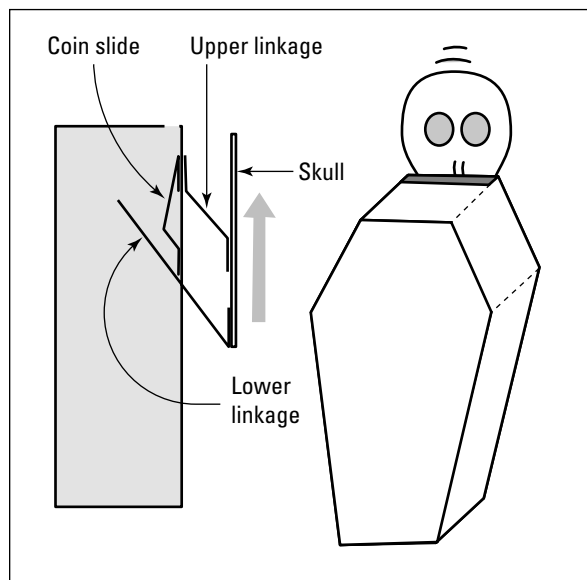

Figure 12-3:
This project uses a four-bar linkage (see the preceding section) to make a skull appear briefly when you put a coin in your Halloween moneybox. Figure 12-3 shows how the Halloween moneybox works. You drop the coin down the slot. As the coin bumps into the lower bar, the coin pushes the bar downward, raising the other end of the bar (lever) and lifting the skull into view on the back of the coffin-shaped box.
3. Make and attach the skull and four-bar linkage to the coffin box (Figure 12-3)